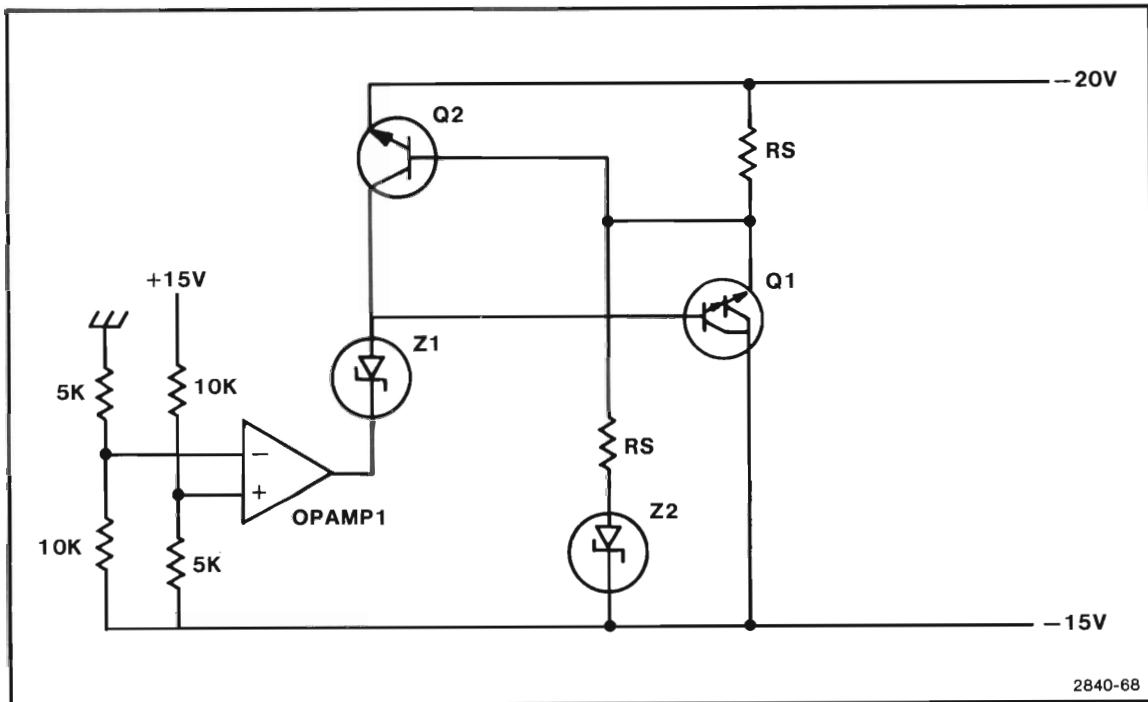

Figure 14-3. -15 V Power Supply.
The -15 V supply (Figure 14-3) gets its power from the -20 V unregulated supply. It uses a reference voltage from the +15 V supply for voltage comparison. Sample voltages from the +15 V and -15 V supplies are compared at the inputs of an operational amplifier (OA). The amplified difference voltage is coupled through a voltage offset Zener (Z1) to a Darlington series regulator transistor, Q1. Any change in supply output voltage is inverted and amplified by the operational amplifier to change the signal at the base of the series regulator and cancel the change. A second transistor, Q2, senses the voltage across RS. When the current through RS is enough to turn Q2 on, its collector current reduces the input voltage to the series regulator, Q1, reducing the input to a safe level until the cause for excessive current is removed.